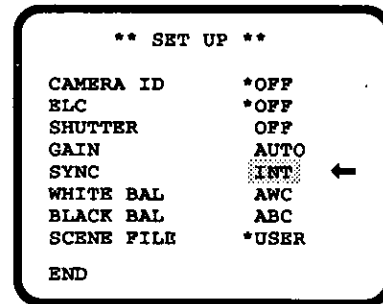

Fig.31.
- Display the SETUP menu as shown in Fig.31.
- Confirm that the cursor is on the "INT" position of the SYNC MODE as shown in Fig 31.
- Confirm that the cursor is on the "INT" position of the SYNC MODE as shown in Fig.31.